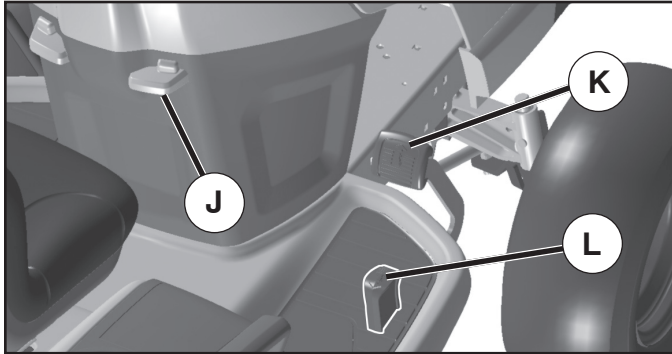

Fig. 7
TO MOVE FORWARD AND BACKWARD (See Fig. 7)
- Slowly depress forward (K) or reverse (L) drive pedal to begin movement. Ground speed increases the further down the pedal is depressed.
TO USE CRUISE CONTROL (J) (See Fig. 7)